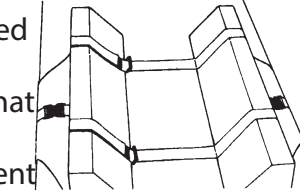

Fig. 7
- Secure bolsters so that they are positioned near the center of the bed. (Fig. 7)